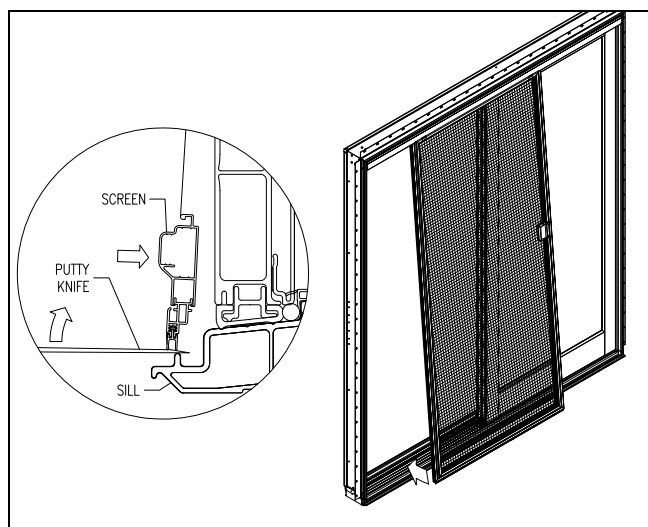

Figure 2
2. Once you are sure the rollers are fully seated in the screen track, pivot the screen panel into position toward the sill and place the bottom screen panel guide into the sill track by lifting it with your fingers or by lifting with a stiff putty knife. See Figure 2.